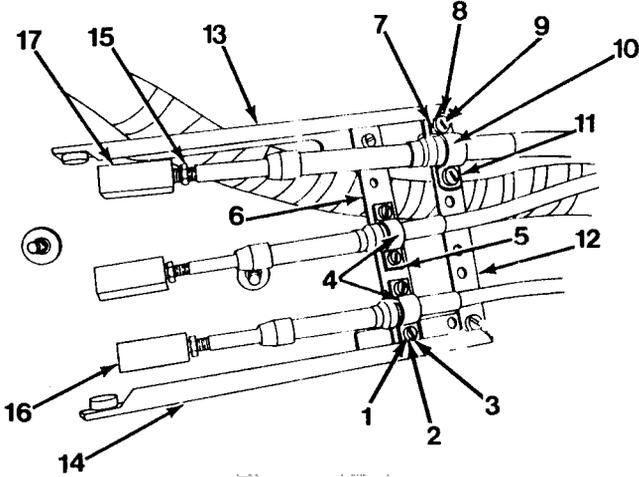

Figure 17-1
2. Remove five nuts (1), lockwashers (2), screws (3), two clamps (4) and shims (5) from lever shim (6, Figure 17-1).
3. Remove lever shim (6).
4. Remove three nuts (7), lockwashers (8), screws (9), clamp (10) and shim (11) from lever shim (12).
5. Remove left hanger (13) and right hanger (14).